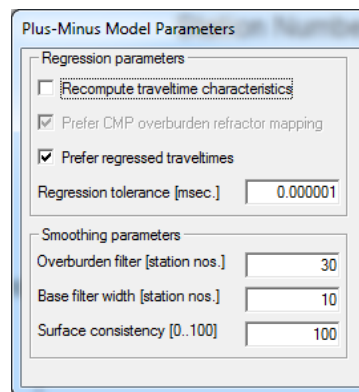

Fig. 12 : Plus-Minus parameters, ALT+M
- press ALT+M and edit overburden, basement *refractor smoothing* (Fig. 12)